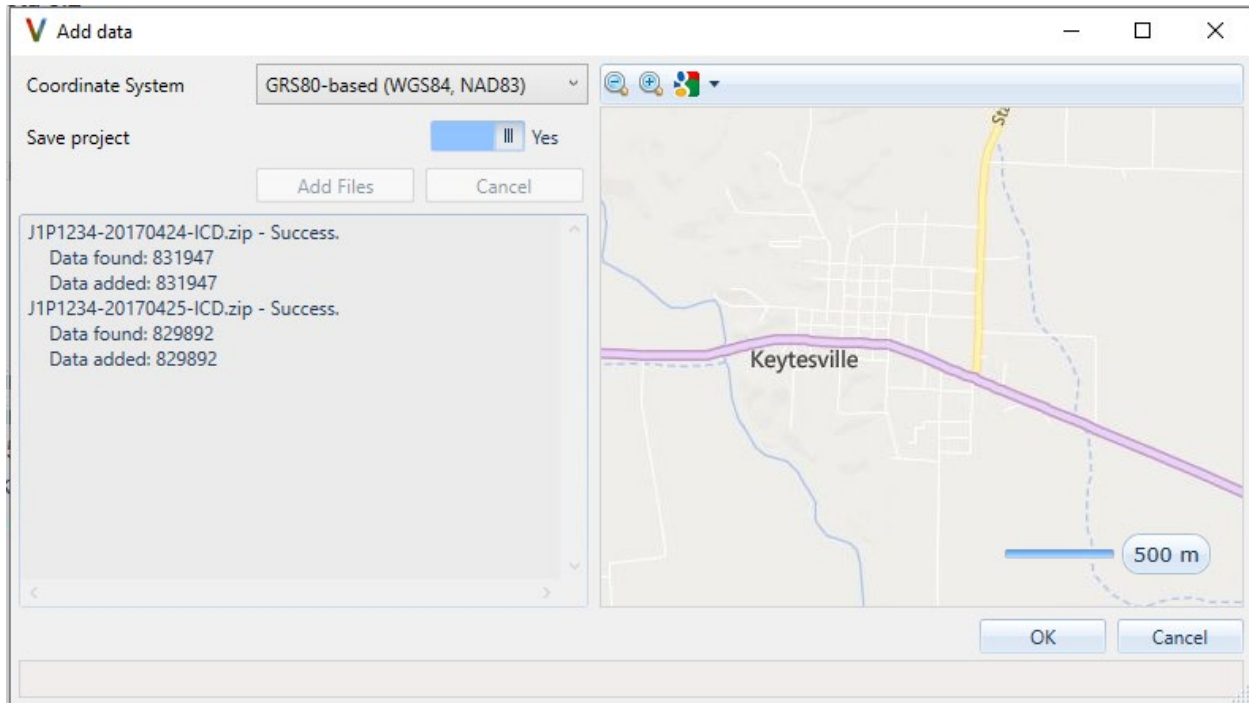

Figure 6. Add data window. The general map area of data is displayed.
4. Choose whether to save the project after adding data files using the **Save project** switch. Then click **Add Files**. The data will appear in the map display shown in Figure 6. If the data appears invalid on the map, check that the coordinate system and units are correct. If the data looks correct, click **OK**.